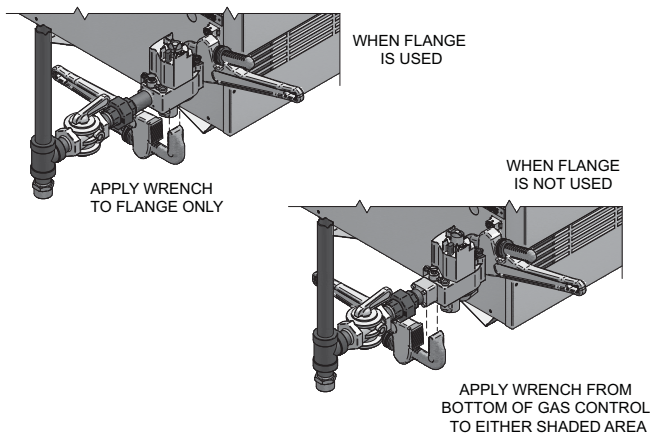

Figure 3-2 Wrench
- Connect pipe to gas valve or manifold inlet. Use wrench to square ends of the gas valve (FIG. 3-2).